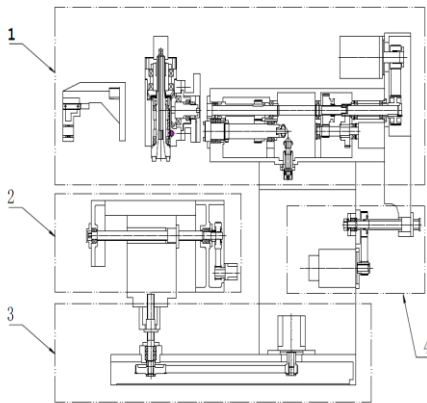
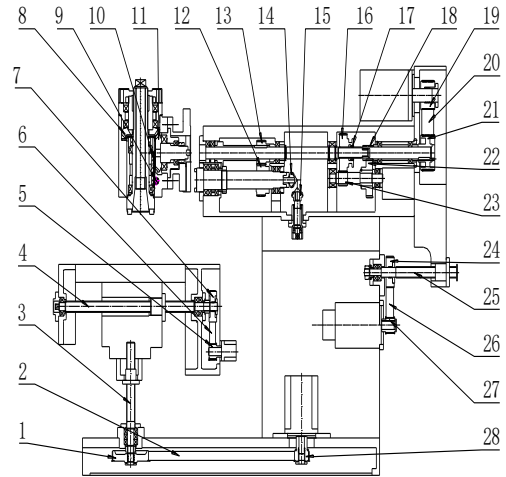

Fig. 10:
Fig. 11: Machine transmission parts diagram
1) Spindle transmission system (see Fig. 10 & Fig. 11)
The spindle transmission system is composed of ram gearbox and milling head, for detail, see block chart 4 in Fig. 10. For specific driving parts, see Fig. 11. And the transmission principle is as follows:
2)X-axis drive (see Fig 10, Fig. 11)
X-axis drive is shown in block chart 2 in Fig. 10; for transmission parts, see Fig. 11, and the transmission principle is as follows:
3)Y- axis drive (see Fig 10, Fig. 11)
Y-axis drive is shown in block chart 4 in Fig. 10; for transmission parts, see Fig. 11, and the transmission principle is as follows:
4)Z-axis drive (see Fig 10, Fig. 11)
Z-axis drive is shown in block chart 3 in Fig. 10; for transmission parts, see Fig. 11, and the transmission principle is as follows:
Gear and Transmission Parts List(Fig.11)